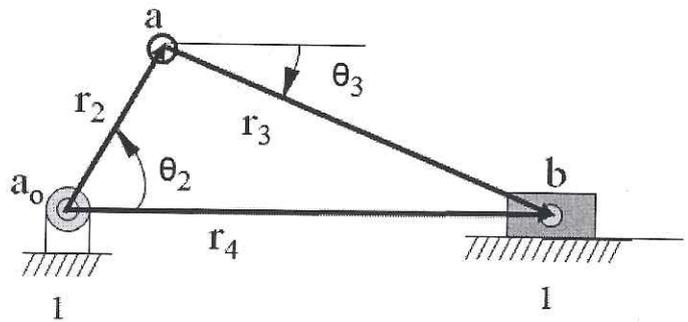

Figure 3 Offset crank-slider
3. Figure 3 show a offset crank-slider. For the mechanism, if  $aa_o=6\text{cm}$ ,  $ab=13\text{cm}$ , (a) write down the vector loop equation, (b) Find the close form equation for  $r_4$ , (c) please find  $r_4$  and  $\theta_3$  when  $\theta_2=90^\circ$ . (20%)